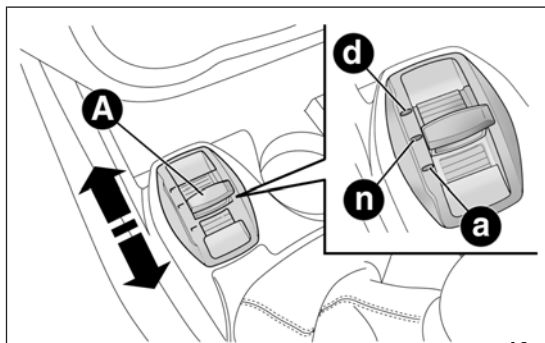
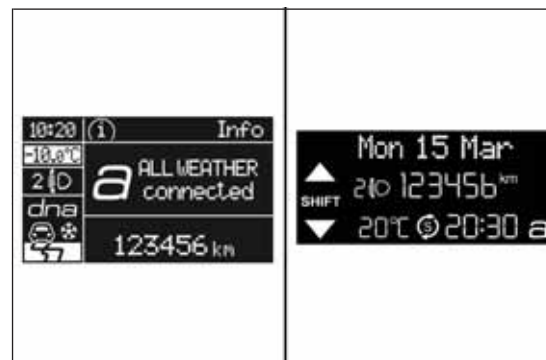

fig. 72
fig. 77
This device allows, using lever A fig. 72 (on the central tunnel), three car response modes to be selected according to driving style and road conditions:
Move the lever A fig. 72 upwards (next to the letter “d”) and hold in this position for 0.5 seconds until the corresponding LED lights up or the word “Dynamic” appears on the display (see fig. 75).
Move lever A fig. 72 downwards (to the letter "a") and hold in this position for 0.5 seconds until the corresponding LED lights up or the word "All Weather" appears on the display (see fig. 77).
To deactivate "All Weather" mode and return to "Natural", carry out the same procedure described for "Dynamic" mode, but move lever A fig. 72 to "a".
- ❑ In the event of system failure or a fault with lever A fig. 72, no driving modes can be selected. The display will show a warning message.